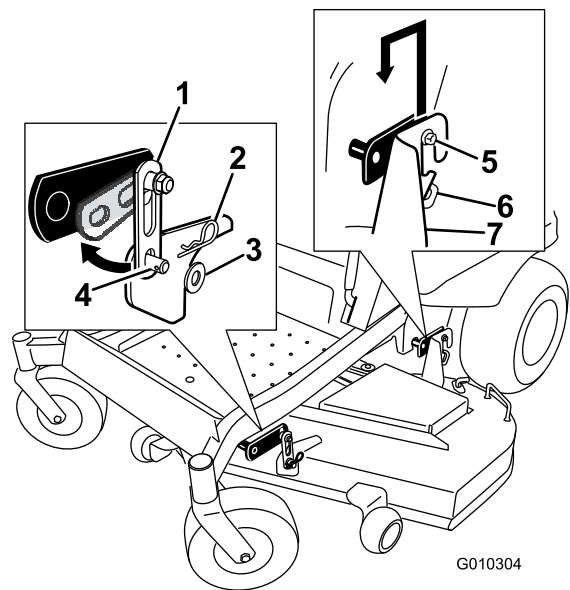

Figure 75
2. Remove the hardware from the front deck hangers on both sides of the deck (Figure 75).
3. Carefully lift the deck off the rear hanger bolts and lower the front of the mower deck to the ground (Figure 75).
5. Lift the rear of the mower deck and guide the hanger brackets over the rear hanger bolts (Figure 75).
6. Attach the front support on the mower deck to the front deck hangers and secure them with a washer and hairpin cotter (Figure 75).